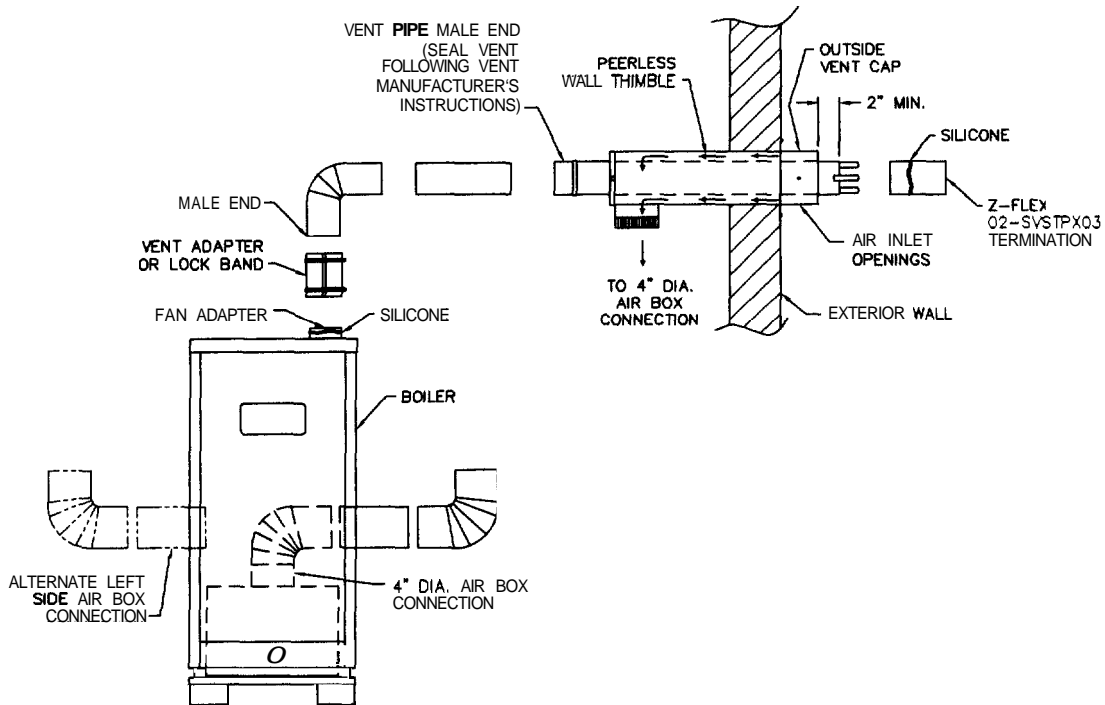

Figure 9: Side Wall Venting System
15. Attach **Z-Flex** #2SVSTPF03 terminal to protruding vent pipe. Refer to Figure 9. To attach to HEAT-FAB pipe, insert into pipe end and fold over tabs to **secure**. Otherwise, silicone terminal to vent pipe.